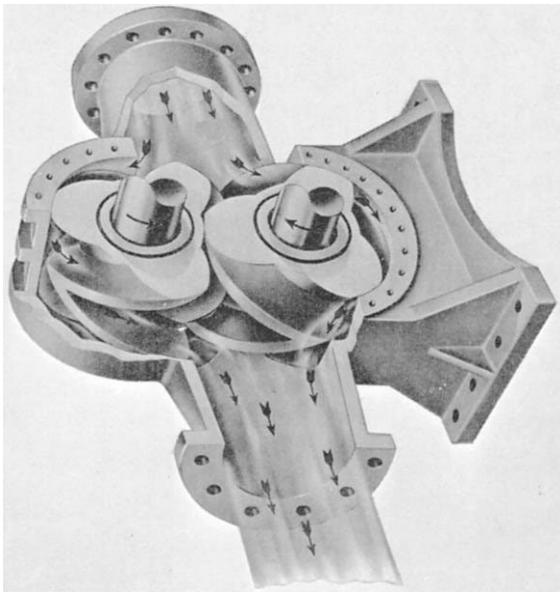

Figure 5-19.—Lobe pump (heliquad type).
**LOBE PUMP.**—The lobe pump is still another variation of the simple gear pump. A lobe pump (heliquad type) is illustrated in figure 5-19. The lobes are considerably larger than gear teeth, but there are only two or three lobes on each rotor. The rotors are driven by external spur gears on the rotor shafts. Some lobe pumps are made with replaceable inserts (gibs) at the extremities of the lobes. These inserts take up the